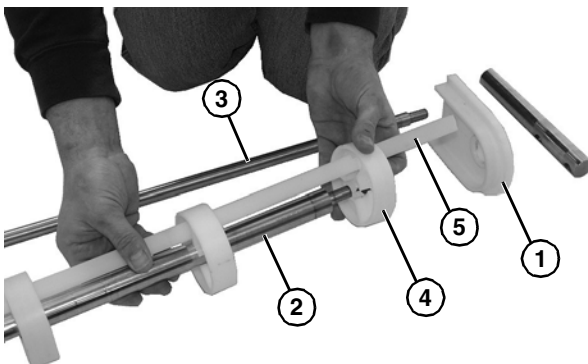

Figure 59
3. Remove pinch guard (**Figure 59, item 1**) from idler shaft (**Figure 59, item 2**) and pinch guard shaft (**Figure 59, item 3**).
4. Slide the pucks (**Figure 59, item 4**) and alignment bar (**Figure 59, item 5**) off the idler shaft (**Figure 59, item 2**).